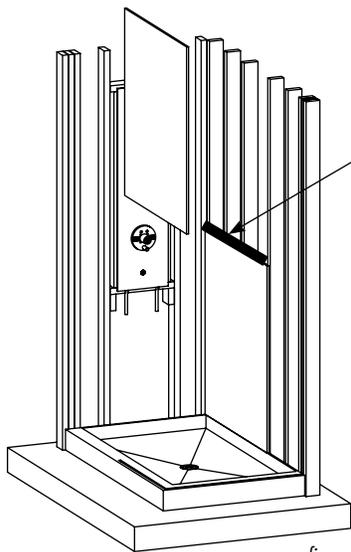

figure 16
2. Install the next cement board above the first one placed (*fig. 16*).